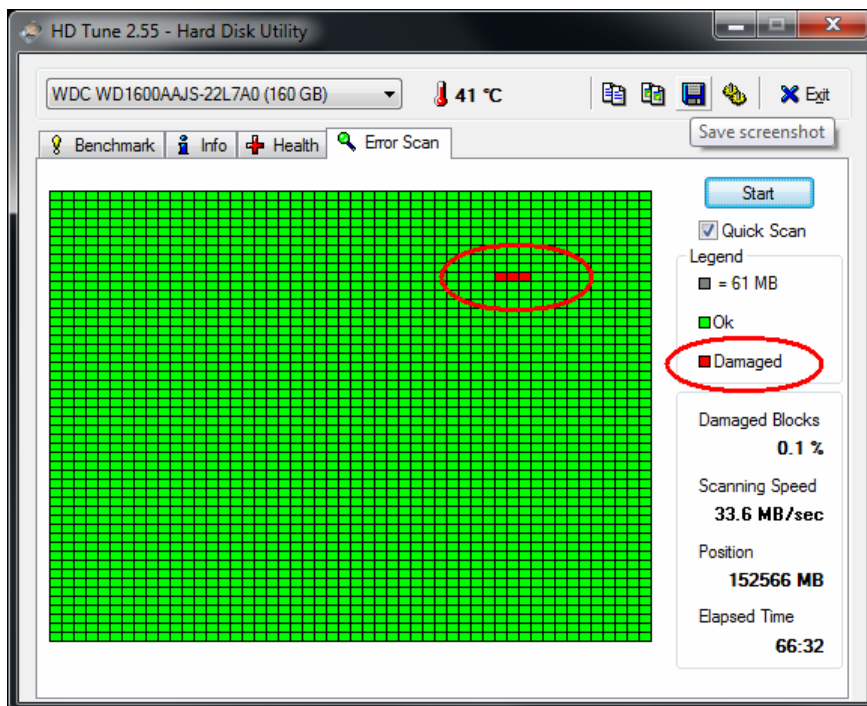

Figure 5-2
- B. Click the **Error Scan** tab and click **Start** to scan. Any found defects will be shown as red blocks (see Figure 5-2).